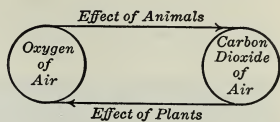

Fig. 25. The cycle of oxygen in nature.
37. Source of the free oxygen of the air. The cycle through which oxygen passes in nature can be represented as in Figure 25. This diagram means that the oxygen of the air is taken up by animals, who give off a liter of carbon dioxide for each liter of oxygen they consume. This carbon dioxide is decomposed by the plants, which build up the carbon into their tissues and return the oxygen to the air, whereupon the cycle begins anew. An acre of forest discharges daily about a ton of oxygen.